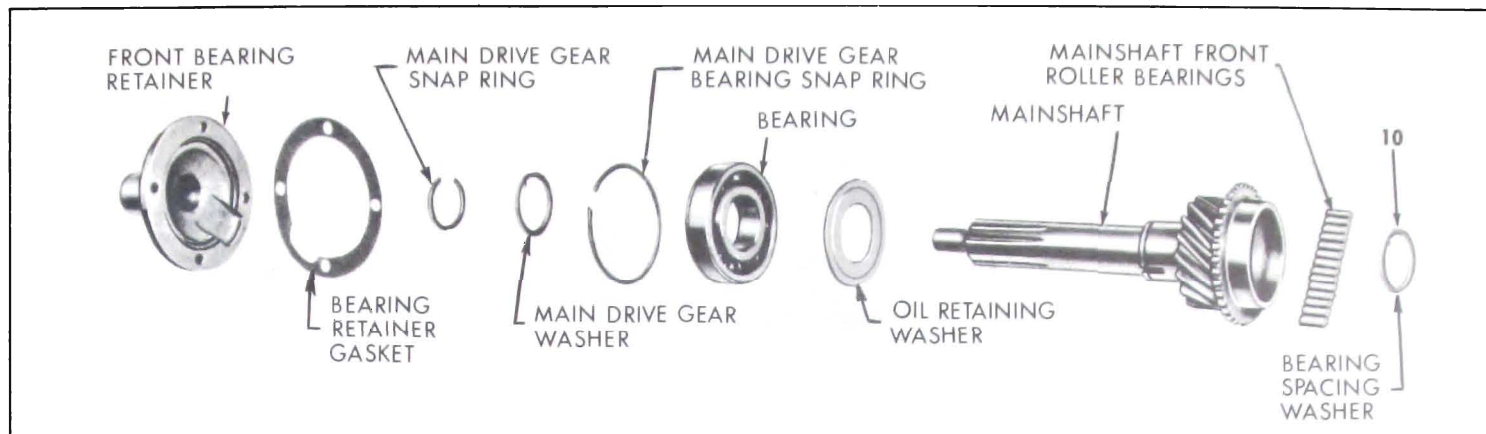

Figure 4-85—Main Drive Gear
14. Remove four bolts from front bearing retainer and remove retainer and gasket. See Figure 4-85.
15. Remove main drive gear snap ring and washer from main drive gear, using Snap Ring Pliers J-5586. See Figure 4-85.